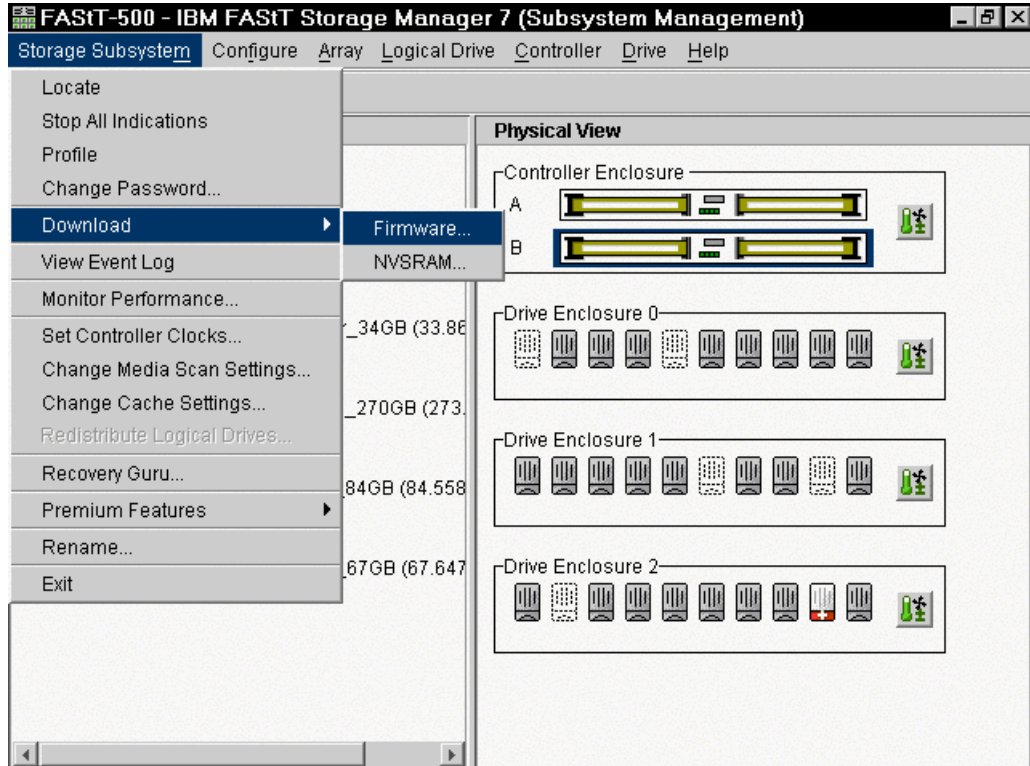

Figure 7-6 Download Firmware
- a. To start the download process for the firmware, in the Subsystem Management window, select the **Storage Subsystem** menu and click **Download-> Firmware**. See Figure 7-6.